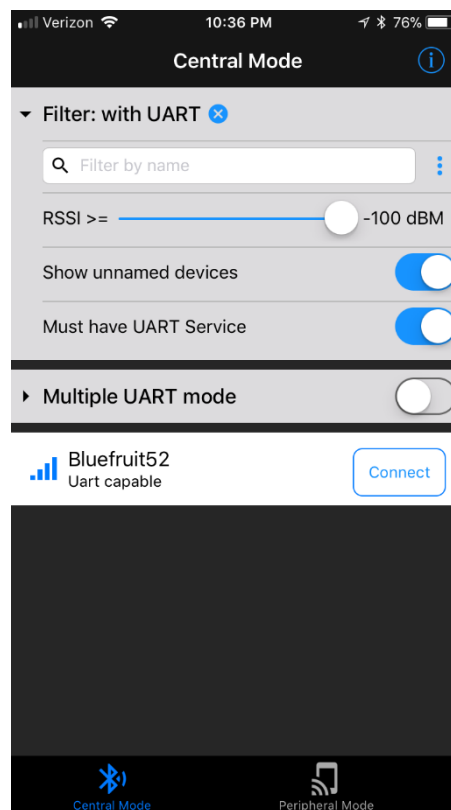

Figure 3. Interface for testing wireless connectivity
1. The first step is to test the wireless connectivity. To do this, download the Adafruit Bluefruit mobile app on your smart phone. The main screen of which is shown below in Figure 3.